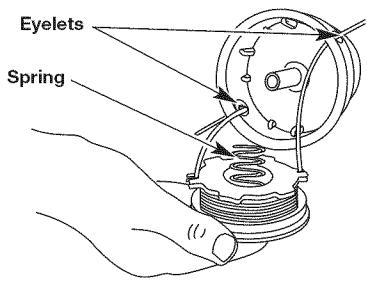

Fig. 21
- Insert or slide the split ends of the line through or into the eyelets in the outer spool and place inner reel with spring inside the outer spool (Fig. 21). Push the inner reel and outer spool together.
5. Insert or slide the ends of the line through or into the eyelets in the outer spool (Fig. 21).